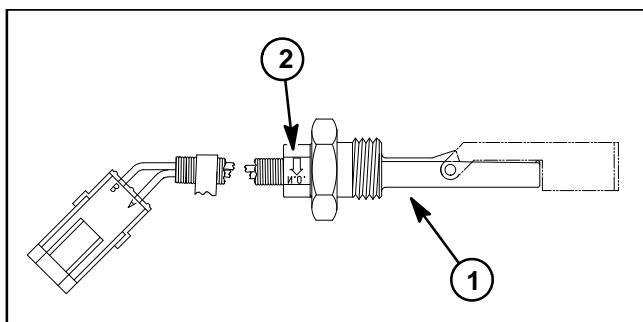

Figure 61
3. If oil level sensor was removed from reservoir, install oil level sensor into reservoir making sure that arrow on sensor is pointing down (Fig. 61). Torque sensor nut from **110 to 140 in-lb (12.5 to 15.8 N-m)**.